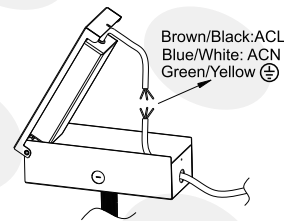

Figure 8
8. Connect the LED fixture to local power with necessary connector protection measures. (Figure 8)